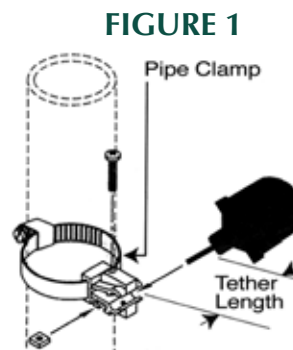

FIGURE 2
1. Determine the desired cord tether length . See Figure 2.
3. Adjust the tether length to achieve the desired pumping range. Use Figure 2 as a guide and test the system by filling tank and cycling the system to achieve the actual desired pumping range. Tighten the clamp.